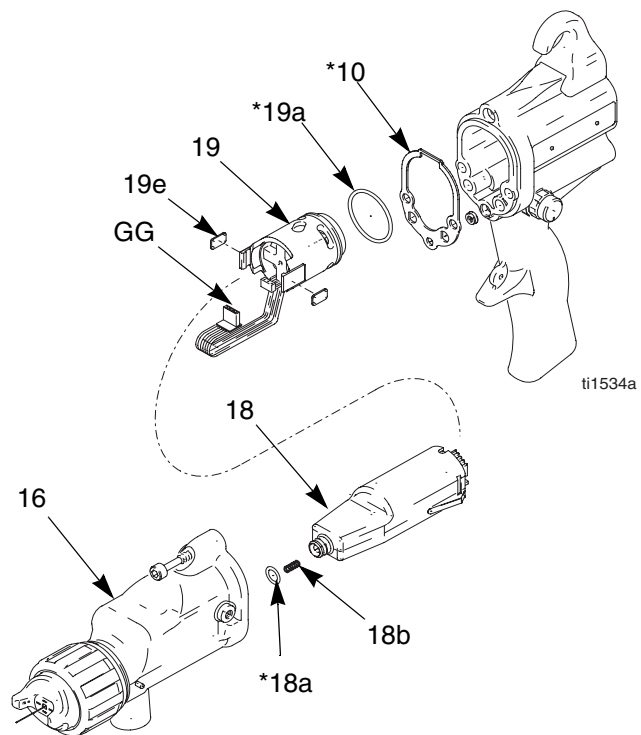

Fig. 15. Power Supply
3. Grasp the power supply (18) with your hand. With a gentle side to side motion, free the power supply/alternator assembly from the gun handle (17), then carefully pull it straight out. See FIG. 15.
4. Disconnect the 3-wire connector (GG) from the power supply. Slide the alternator up and off the power supply. Inspect the power supply and alternator for damage.